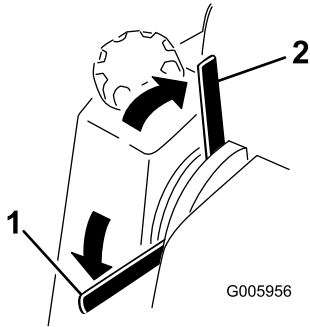

Figure 9
- To engage the parking brake, rotate the lever down (Figure 9).
- To release the parking brake, rotate the lever up (Figure 9).